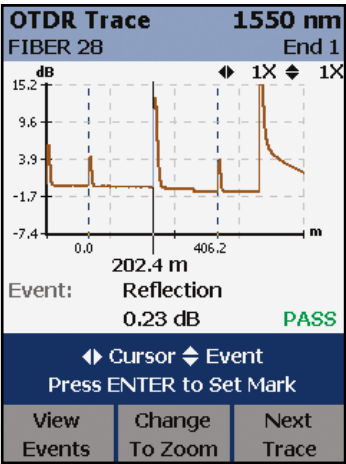
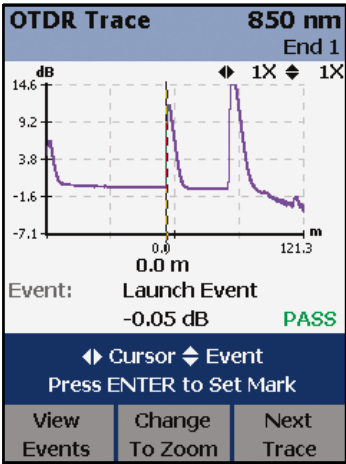

Figure 18 – Trace screenshot on the DTX Compact OTDR
Figure 19 – “Pass” trace screenshot on the DTX Compact OTDR
- Evidence that every component in a fiber optic cabling system was properly installed. See Pass result at 1550nm in **figure 18** and at 850nm in **figure 19**